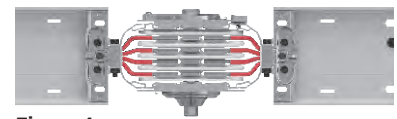

Figure 4 Joint assembly
**Note:** If the final joint cover does not close correctly, it indicates the busbar is not completely aligned. Release the bolts and reapply the sequence from figure 4 to complete the joint.